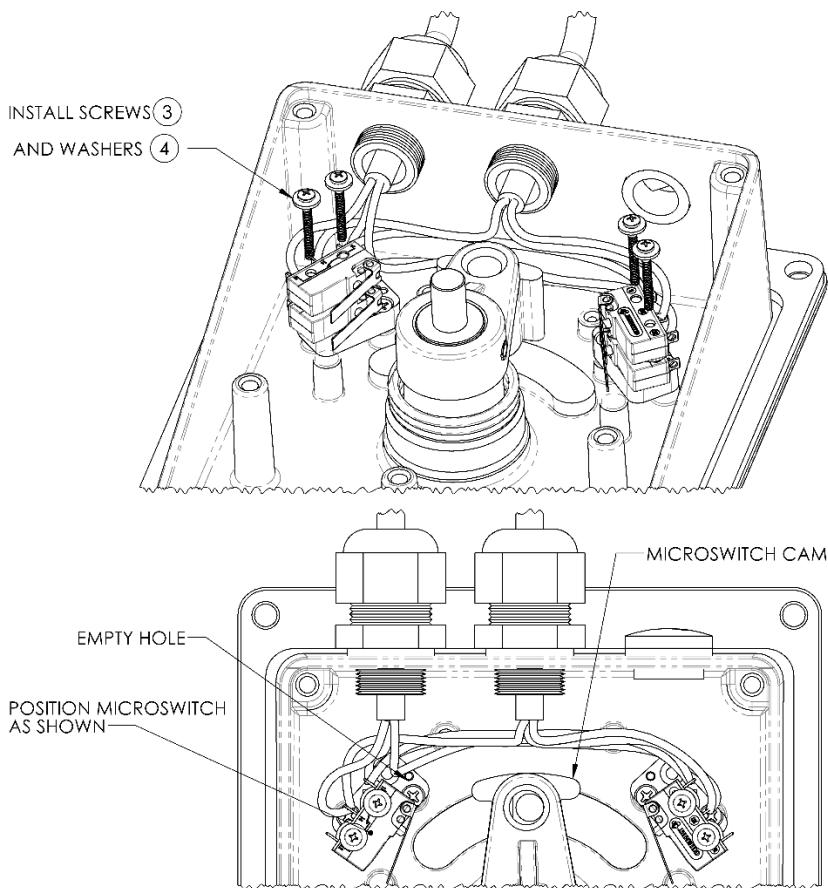
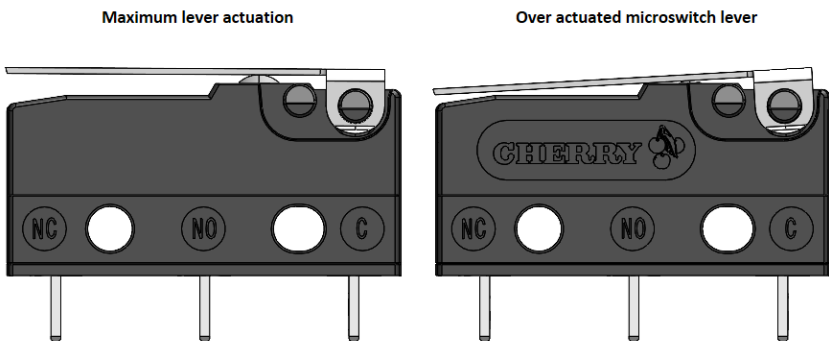

Figure 16: Installing microswitch screws
Figure 17: Maximum and over actuated microswitch lever.
14. Apply Loctite 243 to the threads of the microswitch screws ③.
15. Position the thin washer ④ onto the microswitch screws ③ as shown in Figure 16.
16. Install the microswitch screws ③ ensuring that the screw goes to the correct location and positions the microswitch correctly as shown in Figure 16. [4 microswitch models only] Ensure that the microswitch screw ③ has gone through the inside diameter of the thick washer ⑥.
- a. The actuation levers of microswitches ② are clear of any obstructions through its range of motion. If the switch cam (see Figure 16) grabs or gets stuck on one of the microswitch actuation levers check the switches are orientated correctly.
- b. The microswitch ② lever is depressed enough to actuate the switch contacts when the FFU lever is pushed to its end of travel. This can be done by checking for continuity across the common and signal wire of the switch being actuated. Refer to section 3.2, Table 4, for clarification on which wires to check.
- c. The microswitch is not over-actuated. When the microswitch lever is horizontal, this is the maximum allowable lever actuation. Beyond this, the lever is considered over actuated, and continued operation can damage the internal switch components. Refer to Figure 17 for clarification on the over actuated position.
- d. The microswitch ② lever is raised enough to open the switch contacts when the joystick is in its neutral position. There should be an open circuit between the common and both of the signal wires when the joystick is at neutral.